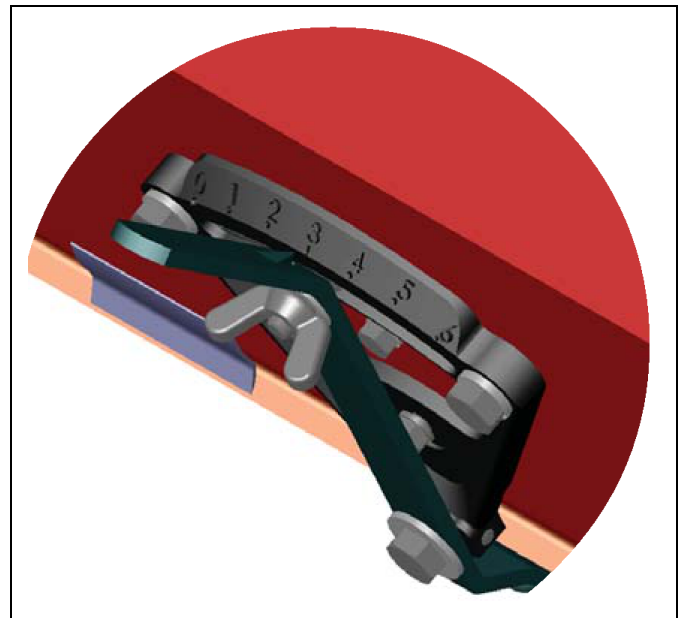

Figure 4-11 Shift Plate
4. Re-tighten the bolts. See Figure 4-11.